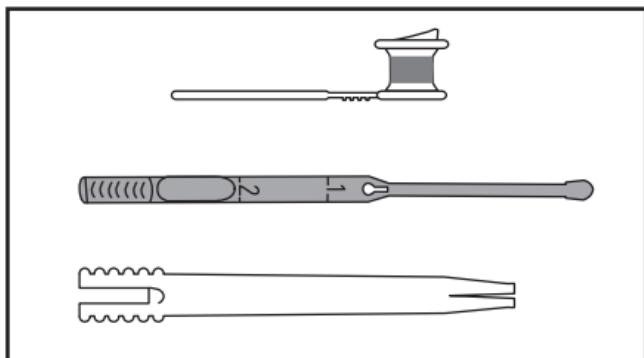

Figure 1
- 1 Provox2 Voice Prosthesis, an Inserter and pre-lubricated Loading Tube (Fig. 1).